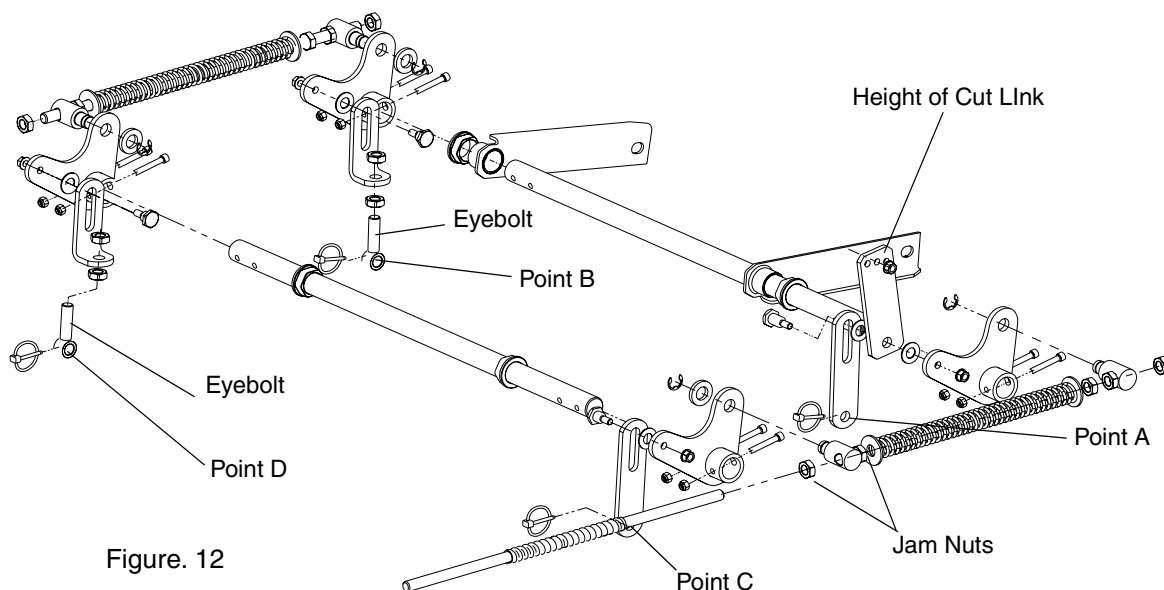

Figure. 12
11. Once the deck is level one may find that the height of cut does not match the height of cut indicator. A final adjustment may be made by lowering or raising the height of cut link accordingly. To raise the deck: remove the shoulder bolt mounting the height of cut link to the lift handle and reassemble the shoulder bolt in the lowest of the three holes. To lower the deck: remove the shoulder bolts mounting the height of cut link, flip the height of cut link around and reassemble the shoulder bolts in the top of the set of three holes and the bottom hole. (see Fig. 12)